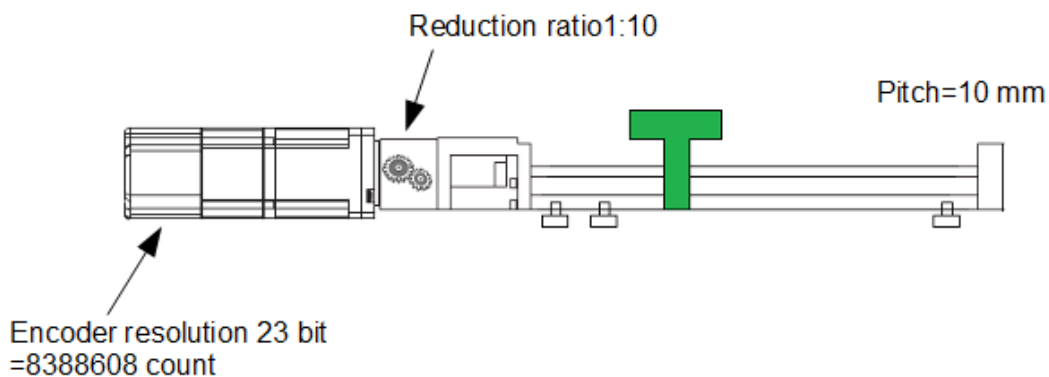

Figure 6.11.1.1
- How many pulses should be input to let the load in figure 6.11.1.1 move for 15 mm in one second?